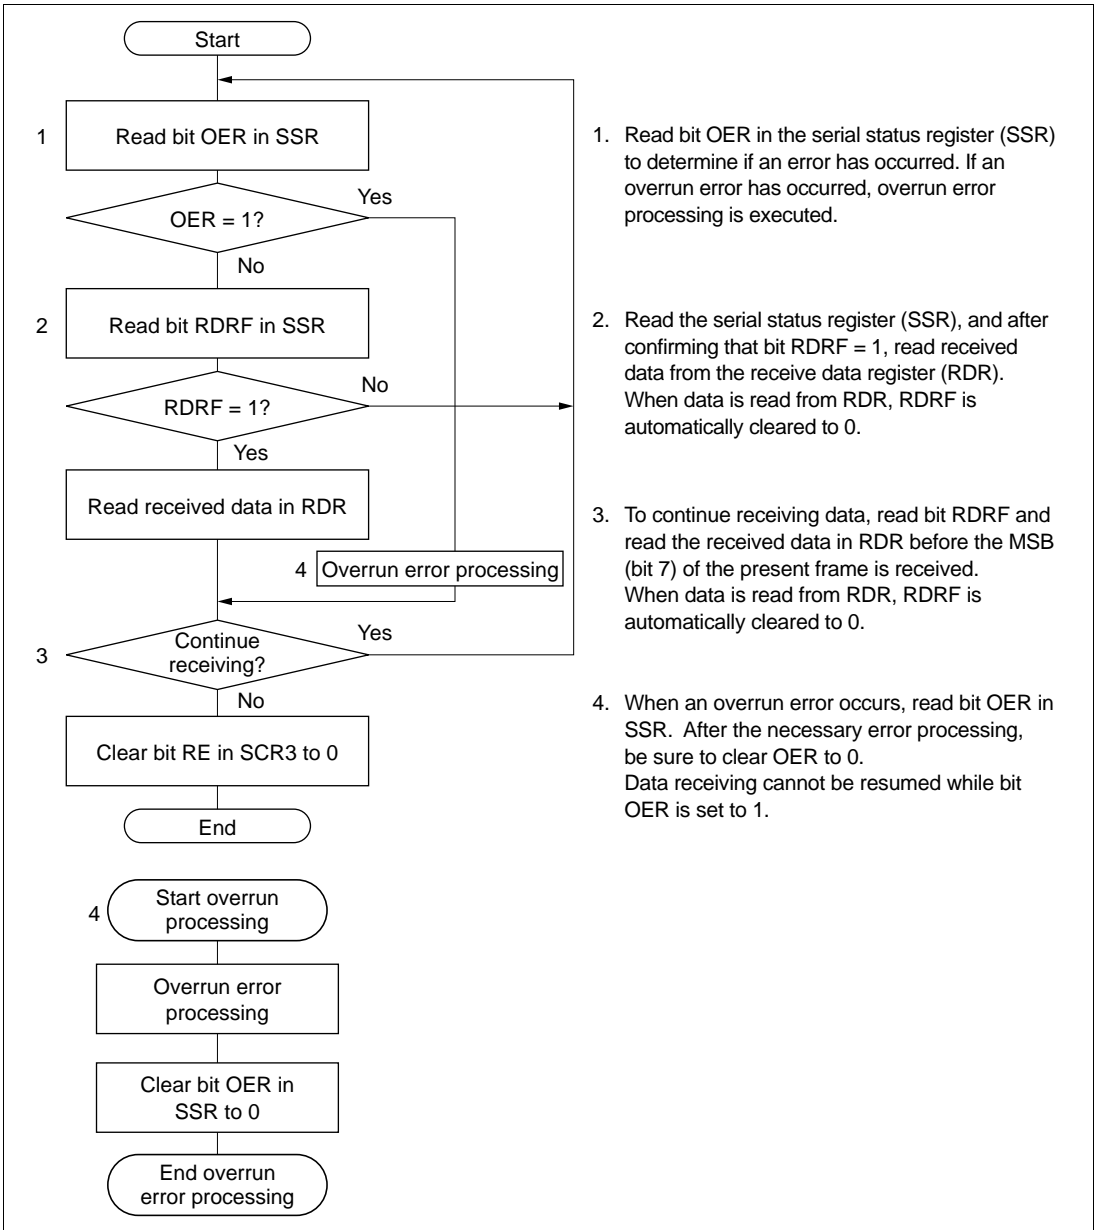

Figure 10.16 Typical Data Receiving Flow Chart in Synchronous Mode
Receiving: Figure 10.16 shows a typical flow chart for receiving data. After SCI3 initialization, follow the procedure below.
4. When an overrun error occurs, read bit OER in SSR. After the necessary error processing, be sure to clear OER to 0. Data transmission and reception cannot take place while bit OER is set to 1. See figure 10.16 for overrun error processing.